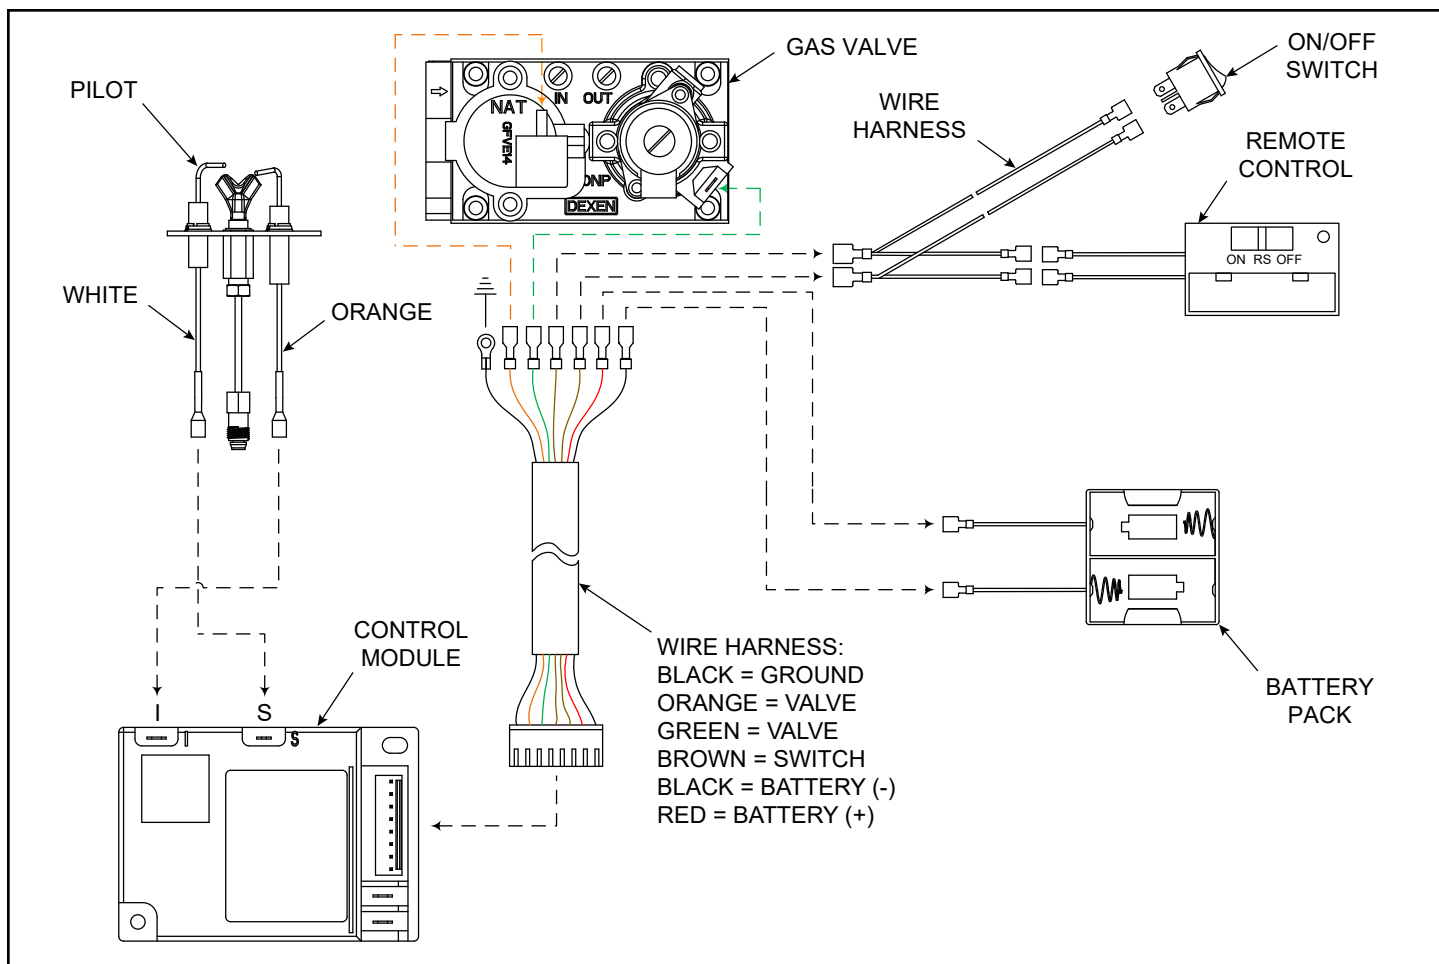

Figure 6.1 IPI Wiring Diagram
- The intermittent pilot ignition system (IPI) on the Stadium series gas log set comes standard with an integrated battery pack, that holds (2) D size batteries.
- An ON/OFF Switch and Remote Control are supplied with the appliance. The Remote Control can be incorporated into this system by connecting to the remote switch wires as shown. See Figure 6.1